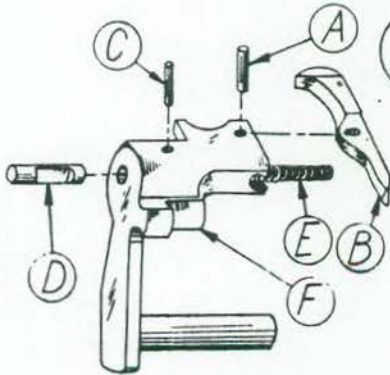

FIG. 1
11 FIRING PIN (H) HAS A SPRING INSIDE, WHICH SHOULD BE REMOVED ONLY WHEN FOUND NECESSARY. DRIVE OUT PIN (G), RELEASING SPRING (K). POLISH PIN (H) CAREFULLY. TOOL (L) IS USED TO PUT SPRING (K) INTO PIN (H). PUSH IN SPRING (K) UNTIL OUTER END IS IN BEYOND HOLE (M). TURN TOOL (L) UNTIL SLOT IN END LINES UP WITH HOLE (M) AND INSTALL PIN (G). REMOVE TOOL. ALL OTHER PARTS OF THE BOLT AS SHOWN IN FIGURE 1, SHEET 7, MUST BE CHECKED CLOSELY. DUE TO THE IMPORTANT FUNCTION OF THE BOLT GROUP.